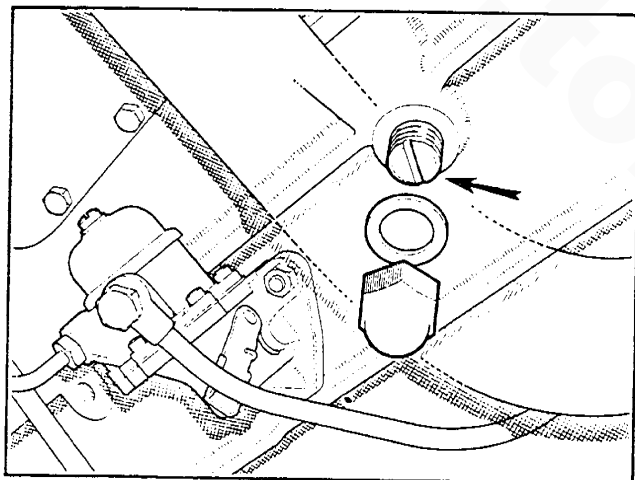

Fig. 5
18. Remove the dowel screw shown in Fig. 5 and withdraw the oil pump and strainer.